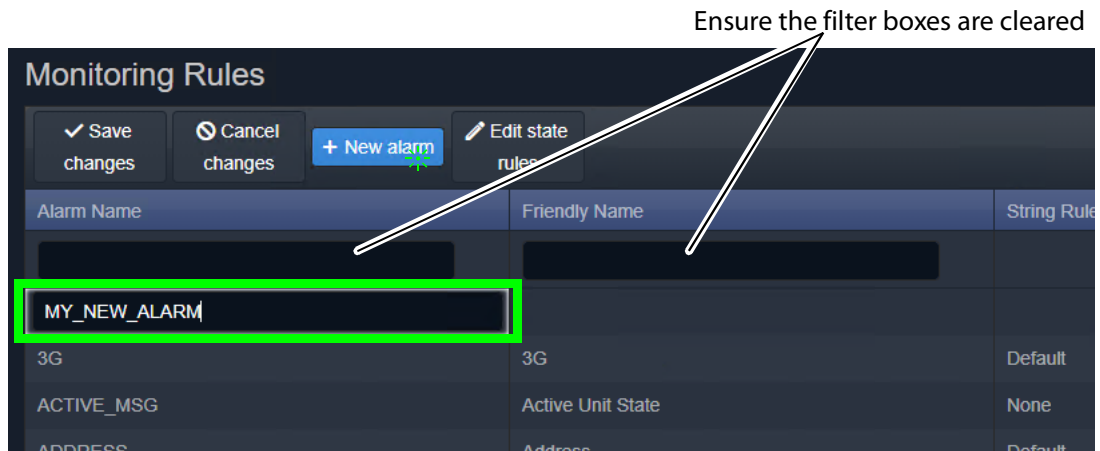

Figure 63: Enter Alarm Name
- 2 Begin to enter the new **Alarm**'s name and select a name from the drop-down list (or enter a new name, if required). This is the message Header that the new Monitoring rule will apply to. See Figure 63.